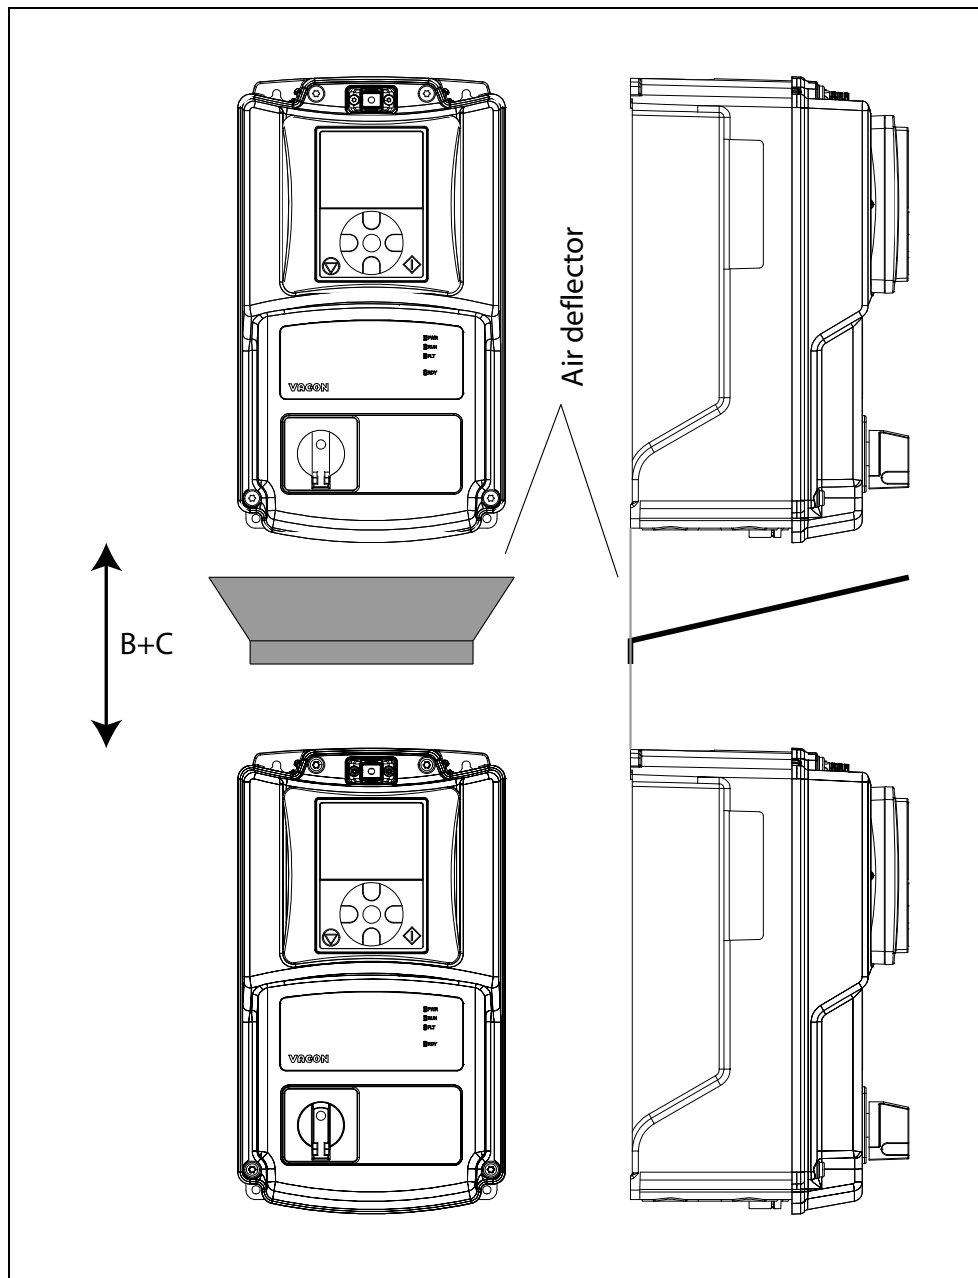

Figure 12. Installation space when drives are mounted on top of each other.
**Note** that if several units are mounted **above** each other the required free space equals B+C (see the Figure 12.). Moreover, the outlet air used for cooling by lower unit must be directed away from the air intake of the upper unit by means of e.g. a piece of metal plate fixed to the wall between the drives as shown in Figure 12..